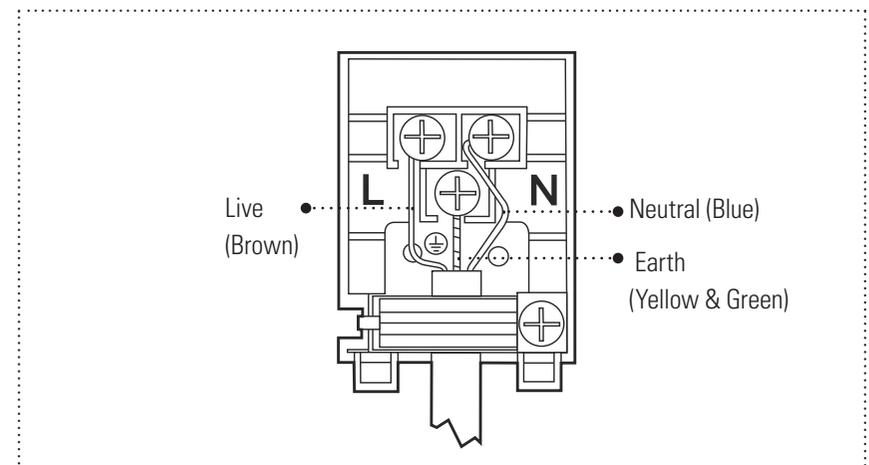

Figure 5
- » This appliance must be earthed. 3X0, 75 MM², HV05 V-F power supply cable must be used. The earth wire must be connected to the screw with the ⊕ symbol. See Figure 5 for the connection diagram.